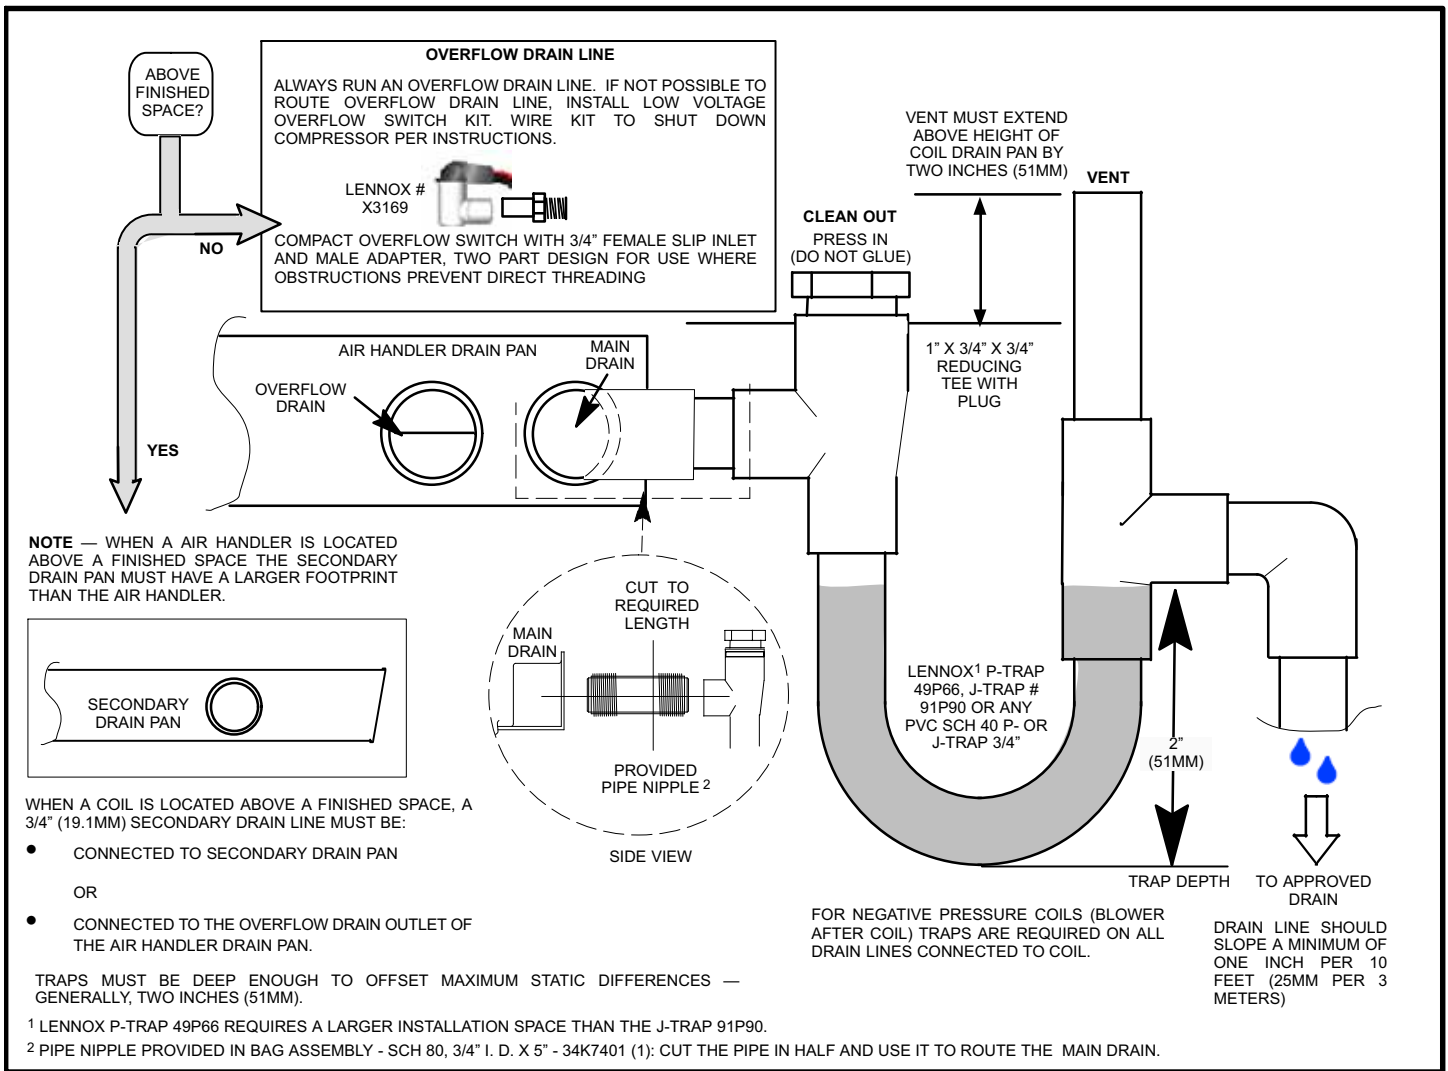

FIGURE 20
A 5" (127mm) section of PVC pipe is provided with the unit. Cut the pipe in half and use to route the auxiliary and main drains. Connect main condensate drain and route downward to an open drain or sump. Do not connect drain to a closed waste system. Refer to figure 20 for typical condensate trap configuration.
- 6- Drains should be constructed in a manner to facilitate future cleaning and not to interfere with filter access. See figure 20.